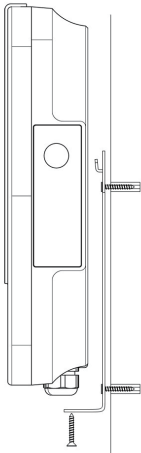

Fig. 6
3) Wall-mounted installation and fixation (Fig. 6)